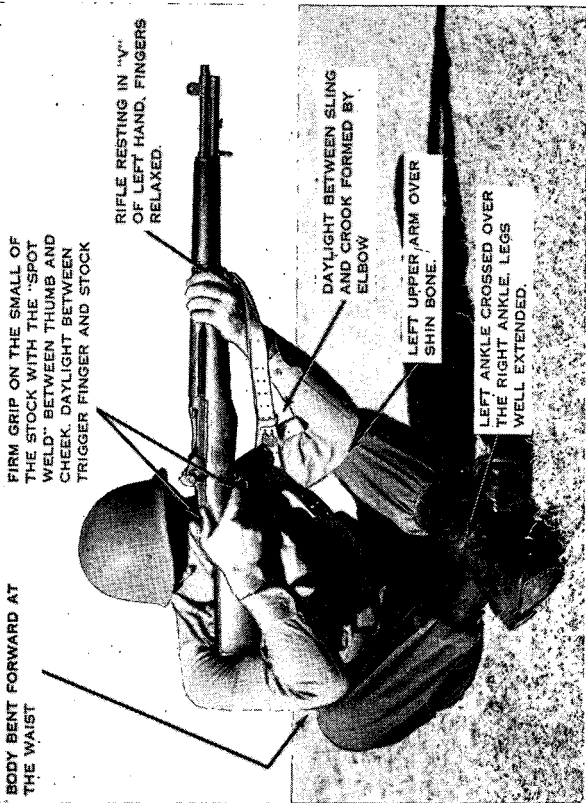

Figure 75. The cross-ankled position (alternate to the normal sitting position (fig. 73).)
b. *Cross-Ankled Position* (fig. 75).
- (1) In this position the left ankle is crossed over the right ankle, the legs extended well away from the body. Here, as in the cross-legged position, the upper arms are supported by the shins. The rest of this position is the same as the normal sitting position.